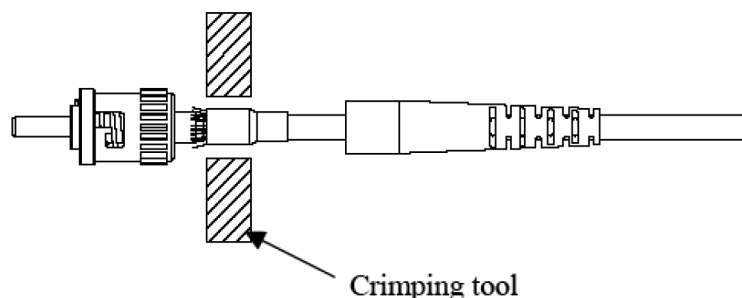

Fig. 6
Step 7 Slide the pre-inserted crimp tube against connector with Kevlar evenly distributed. Fix crimp tube on connector with crimping tool per Fig 6.